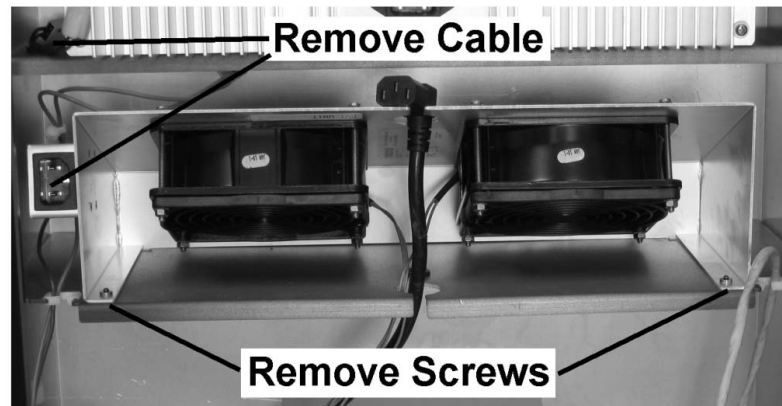

Figure 2-4: Removing the Pedestal Fan Assembly
3. To Remove the pedestal fan assembly, refer to Figure 2-4 and remove the AC input cable, then remove the pair of screws that fasten the bracket to the fan shelf.